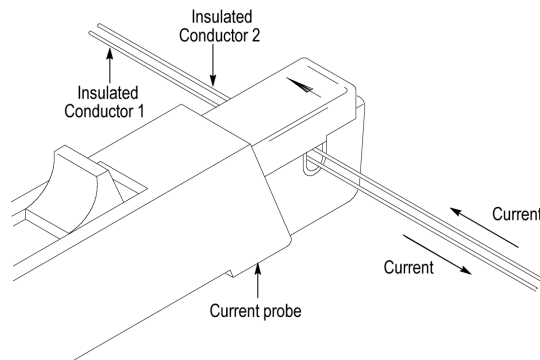

Figure 5: Measuring Differential Current and Nulls
1. Orient the two conductors under test so that the polarities oppose each other. Clamp the current probe around the two conductors as shown. (See Figure 5.)